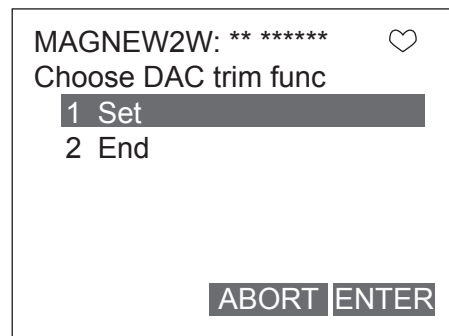

Fig. 7-44.
2. Once the display as shown in Fig. 7-44. appears, move the arrow key up or down to select a current output to adjust, and then press F4 (ENTER). This time, select 4 mA.